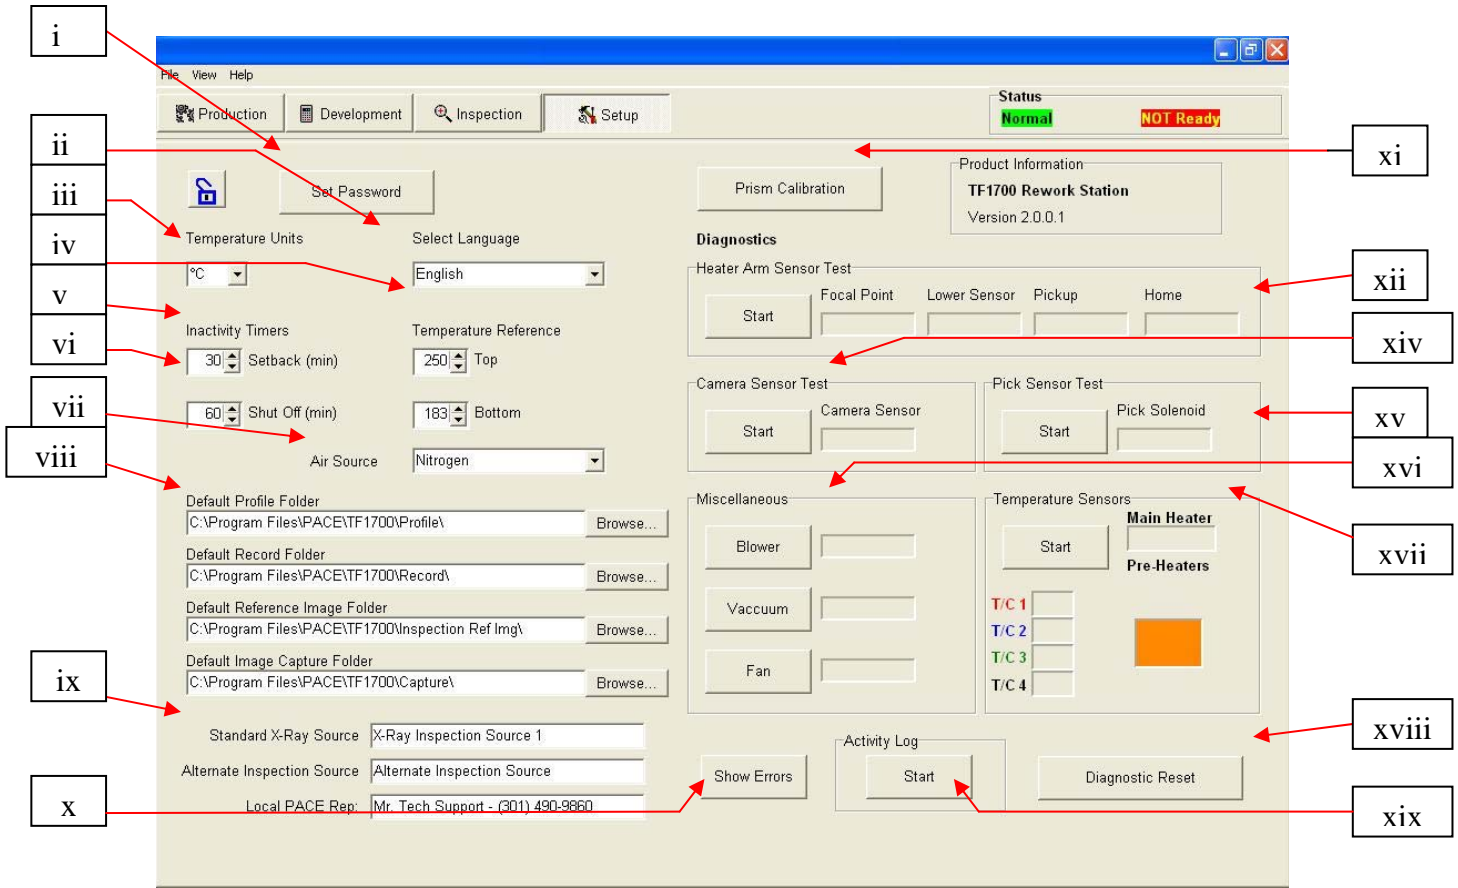

Figure 4a
a. Software set up screen features. (Figure 4a)